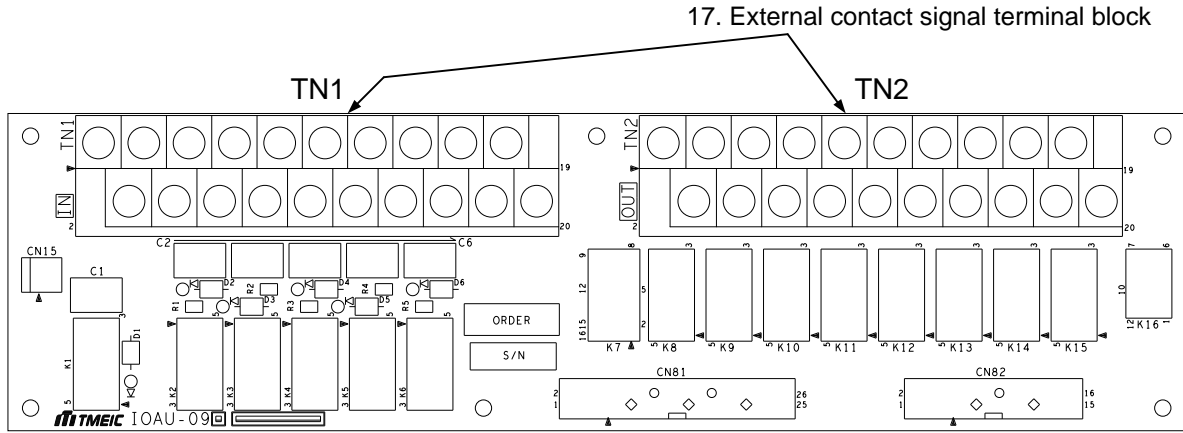

Figure 3-10 External I/F PCB IOAU-09
3. **External I/F PCB IOAU-09 (Figure 3-10):**